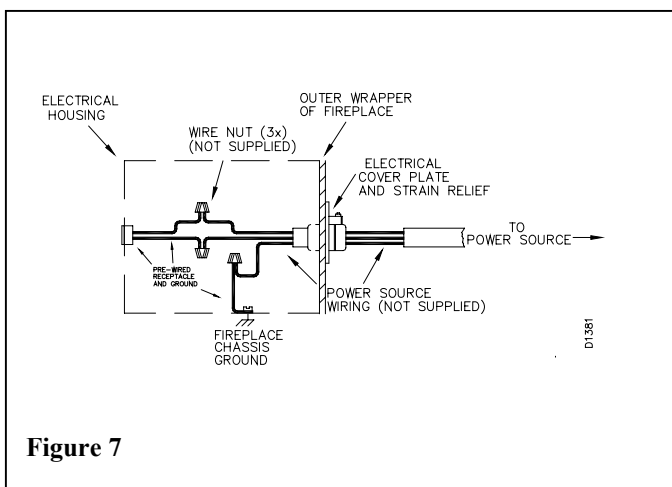

Figure 7
- Slide all wiring connections in the electrical housing as shown in figure 7.